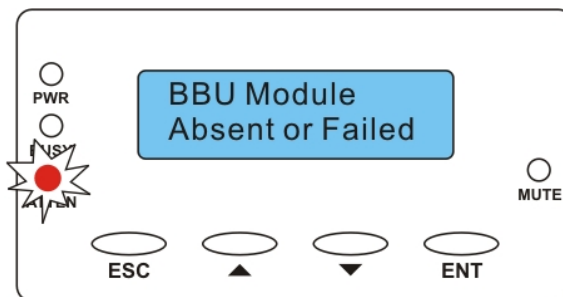

Fig. 1.1 LCD Panel
2. A BBU failure message will show on the LCD panel. (See Figure 1.1.)
2. If the audible alarm is beeping, press the [MUTE] button on the LCD panel (see Figure 1.1) or use terminal to stop the alarm. (Refer to Method 1.1.4.)
2. Press the [MUTE] button on the LCD panel (see Figure 1.1) or use terminal to stop the audible alarm. (Refer to Method 1.1.5.)